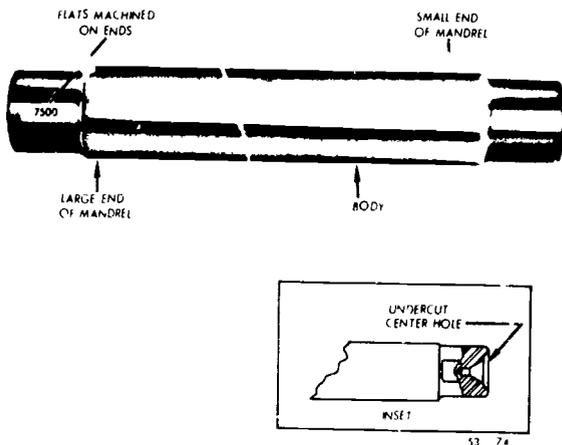

Figure 39. Solid mandrel.
**3-19. Solid mandrel.** The solid mandrel, which is shown in figure 39, can only be used on work in which the hole has been accurately machined to a standard size. The solid lathe mandrel is a cylindrical tool steel bar, which is hardened, tempered, and accurately ground to a standard size. The body of the mandrel is ground with a slight taper of approximately 0.006 inch per foot. The taper provides a means of securing the mandrel to the work to insure that the work and mandrel will rotate together. The shank ends of the mandrel are turned smaller than the body size, and they are machined with a flat. The flat surface provides a positive drive when you tighten the setscrew of a lathe dog against it. (The lathe dog, you will recall, is driven by a driveplate.) The center holes on the mandrel are undercut below the ends of the mandrel to prevent their being damaged when the mandrel is pressed into the work. Solid mandrels are made in standard fractional sizes, with the size of the mandrel always marked on the large end to distinguish it from the small end. The small end of the mandrel is usually a half thousandth of an inch